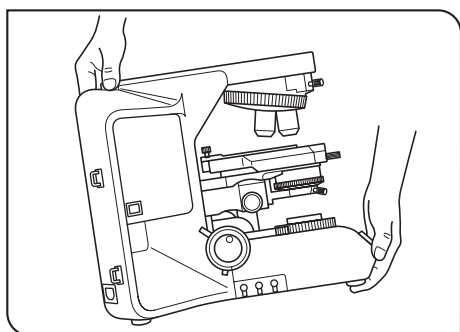

Fig. 2
3. When moving the microscope, remove the observation and specimen and carefully carry the microscope by holding the grasping part on the rear of the arm and the front part of the base as shown in Fig. 2.